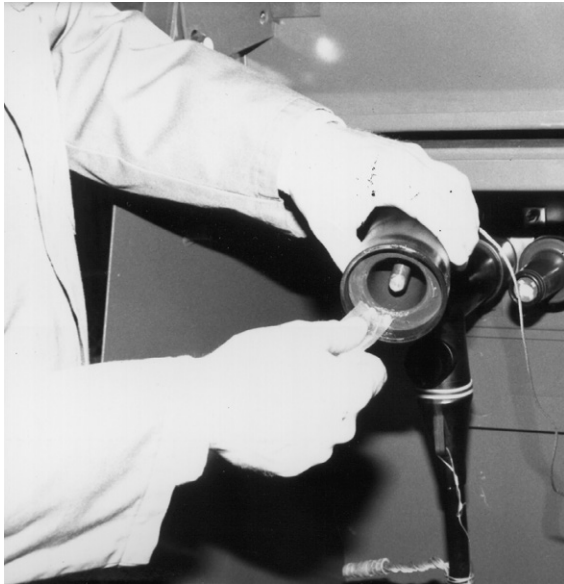

Figure 3. Clean and lubricate cap and bushing mating interfaces
- Clean and lubricate interface surface of insulated protective cap. Mating loadbreak bushing must also be cleaned and lubricated (Figure 3).